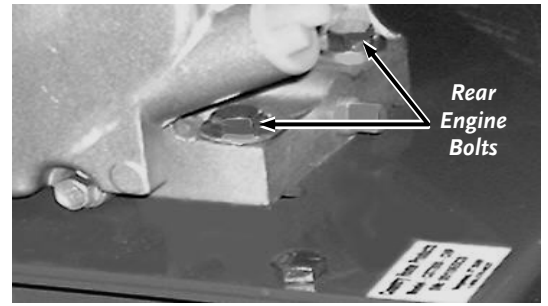

Figure 16
4. Loosen the four Engine Bolts (2 in the Front and 2 in the Rear) using two 1/2" Wrenches (**Figure 16** on page 19).